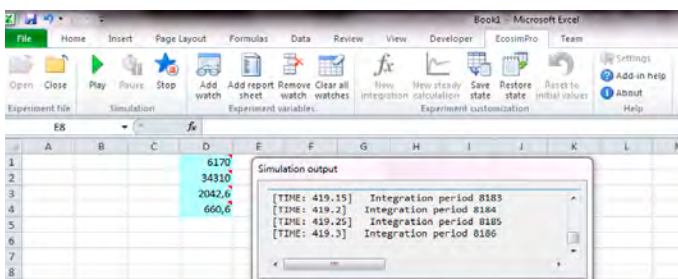

Figure 4 Associated cells
- Generate reports on variables that consist of Excel sheets containing the values of a set of variables for each moment in time in the simulation. The user can then use these reports to create graphs. The Figure 4 shows the dialog for choosing variables to produce a report, while Figure 5 shows the report produced.